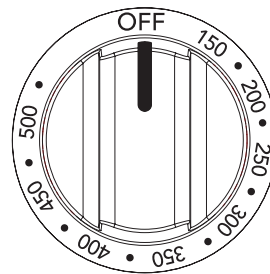

Figure 21: Oven temp knob
4. Turn the oven temp knob to the desired temperature position (Figure 21)